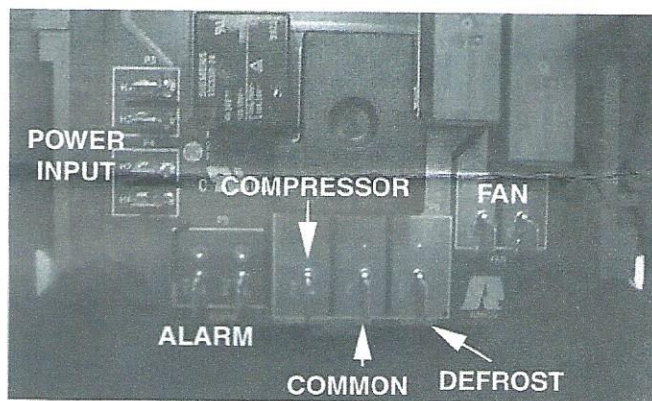
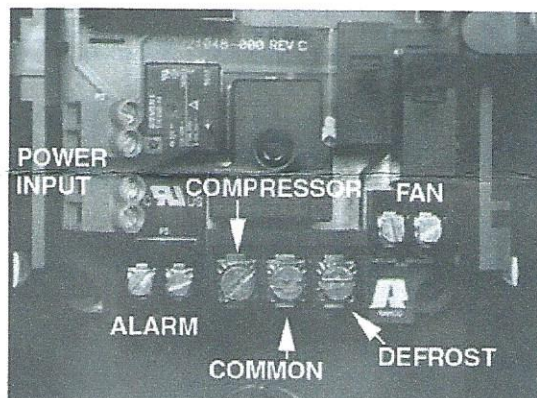

Fig. 10 – Load / AC Input Connectors – Quick Connects
Fig. 11 – Load / AC Input Connectors – Terminal Blocks
- Connect the wires from the compressor (including the thermostat) to the correspondent terminal on the bottom side of the control (Fig. 10 for quick connect version or Fig. 11 for terminal block version).
- Connect the defrost device (heater or hot gas solenoid) to the terminal in the control (Figs. 10 and 11).
- Use the alarm connections to connect an alarm to the control, as shown in Figs. 10 and 11.
The power input must be connected to the terminals on the left side of the control (Figs. 10 and 11). Connect the 120 VAC L1 wire (or 208-240 VAC L1 wire) to the uppermost terminal and the 120 VAC neutral (or 208-240 VAC L2 wire) to the lowermost terminal.